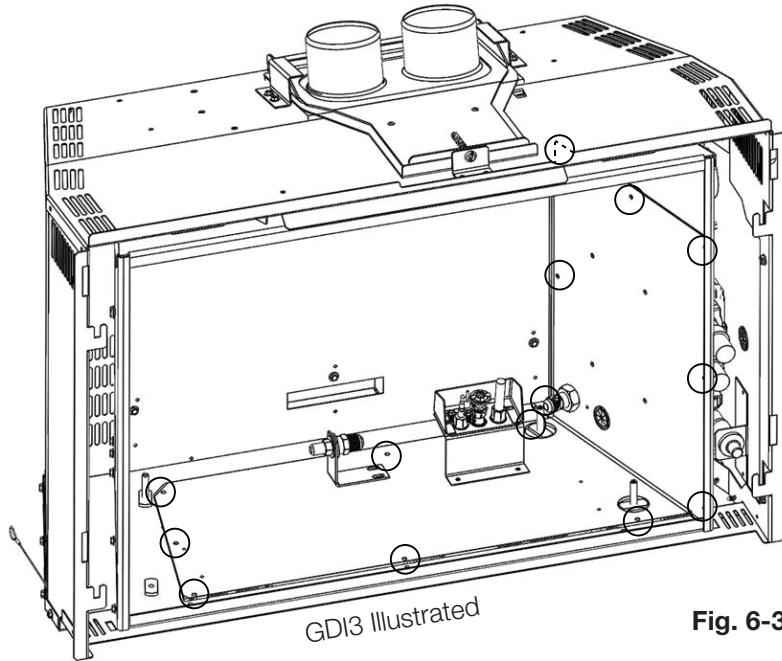

Fig. 6-3
- D.** Remove the 14 screws holding the valve train in place (**Fig. 6-3**).